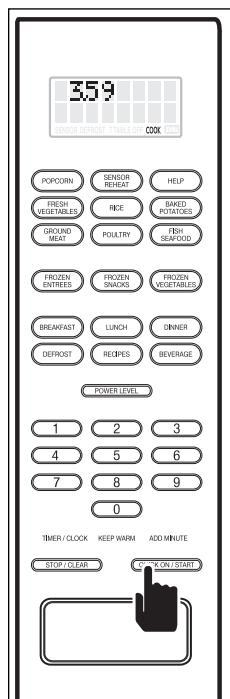

Figure 3-32.
3. Press the QUICK ON/START key to begin cooking at the power level chosen. The oven will energize and the display will show the time as it counts down. (See Figure 3-32) At the end of the cooking time, “END” will flash on the display and the alarm will beep.